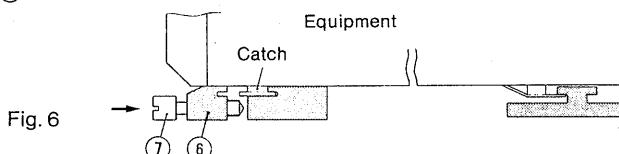

Fig. 6
(2) Push in the mounting rail ⑥ in the direction of the arrow as shown in Fig. 6 so that the catch on the bottom surface of the equipment fits securely into the groove, then tighten at four places with bolts ⑦